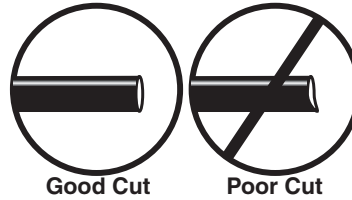

fig. 9
WHEN CUTTING OR TRIMMING THE AIR LINE, USE A HOSE CUTTER, A RAZOR BLADE OR A SHARP KNIFE. A CLEAN, SQUARE CUT WILL ENSURE AGAINST LEAKS. DO NOT USE WIRE CUTTERS OR SCISSORS TO CUT THE AIR LINE. THESE TOOLS MAY FLATTEN OR CRIMP THE AIR LINE, CAUSING IT TO LEAK AROUND THE O-RING SEAL INSIDE THE ELBOW FITTING (FIG. 9)
- Cut off air line leaving approximately 12" of extra air line. A clean square cut will ensure against leaks (see fig. 9). Insert the air line into the air fitting. This is a push to connect fitting. Simply push the air line into the 90° swivel fitting until it bottoms out (9/16" of air line should be in the fitting).
- a. Check the air line connection by deflating the spring and removing the line by pulling the collar against the fitting and pulling firmly on the air line. Trim 1" off the end of the air line. Be sure the cut is clean and square (see fig. 9). Reinsert the air line into the push-to-connect fitting.